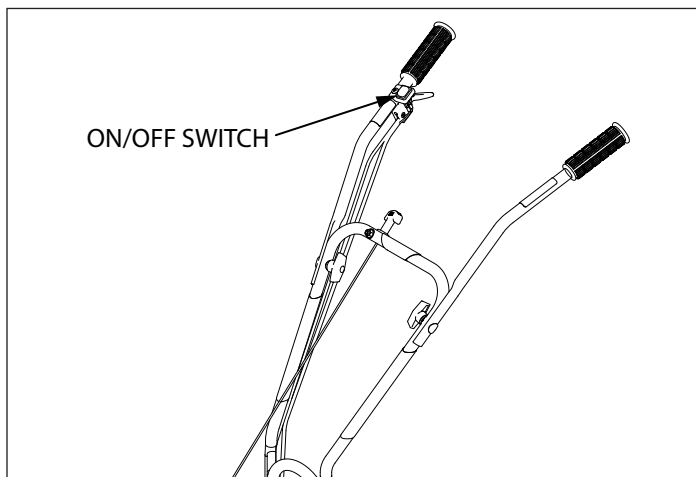

FIGURE 9
1. Flip the ON/OFF switch to the **OFF** position. **SEE FIGURE 9**